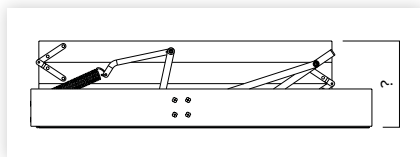

figure 2
- The area for the opening must be clear of wiring, plumbing and structural members such as beams and trusses with a minimum clear height above the ceiling of 326mm for P30, 416mm for P36 or 410mm for D28 (figure 2).